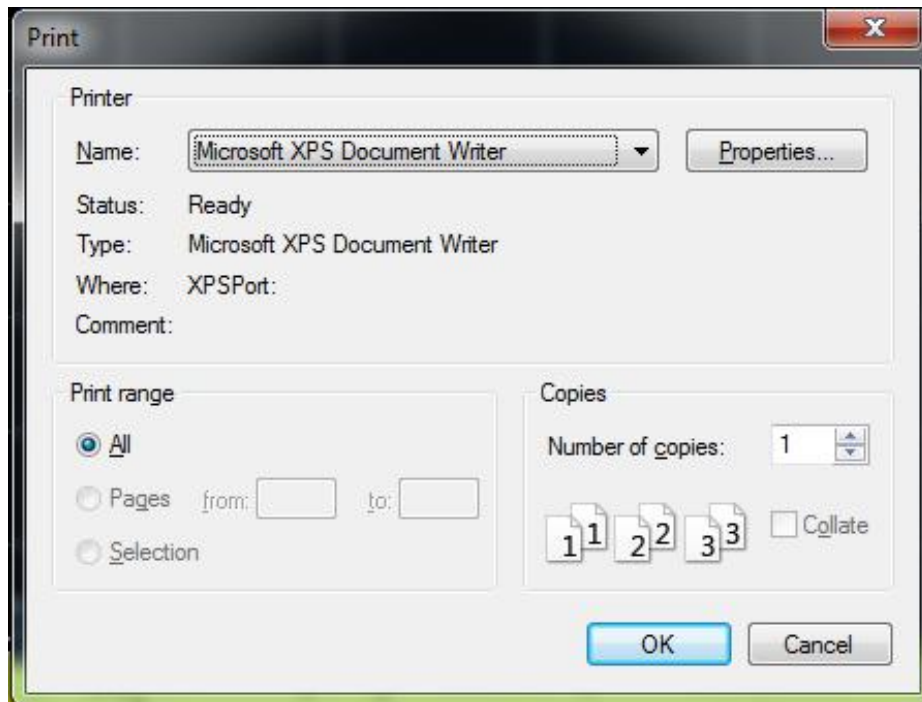

Fig. 3.28 Print dialog
- Press **【Print】** on the front panel to pop up Print Setting dialog as shown in Fig. 3.28.